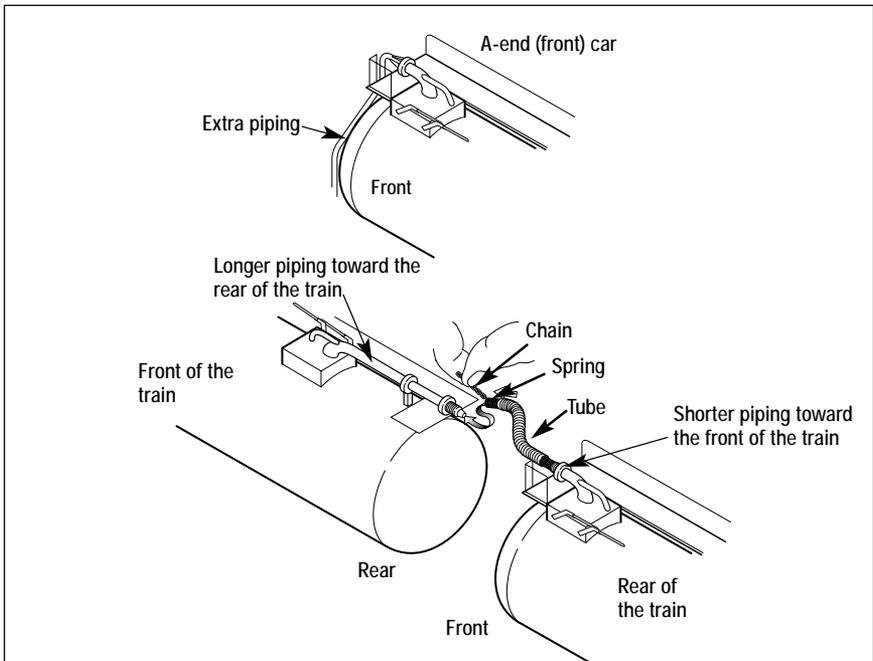

Figure 7. A-end unit and hose connections
A short length of hose runs between each pair of tank cars. Follow these steps and refer to Figure 7 as you attach the hoses.
- Prototypically, the A-end car should be in the lead. As illustrated in Figure 7, look for the piping attached to the front hose fitting to identify this car.